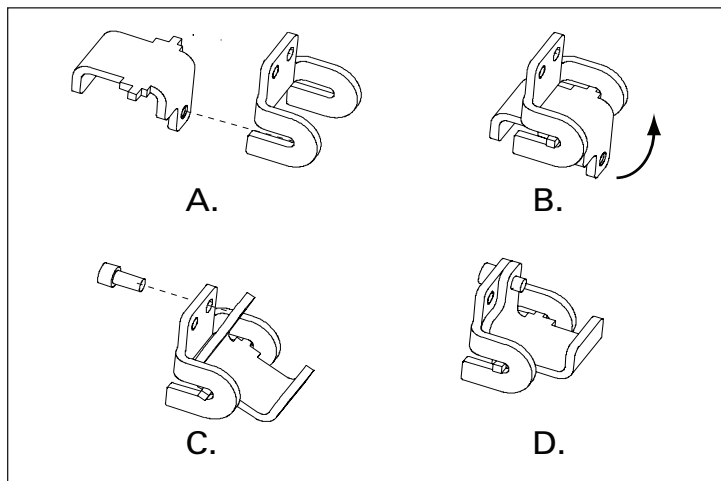

Figure 6.
Step 1: Orient parts as shown in **Figure 6**.
Step 2: Insert latch fully into the mounting plate, then rotate until the holes on each part line up (**Figure 6**). Install the M5 screw without washers to secure the parts together (**Figure 6**).